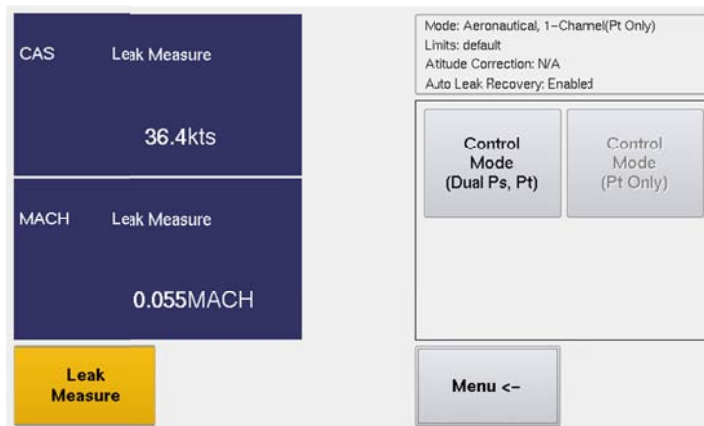

Figure 20 Optional 1-Channel (Pt Only) Mode
(2) Aeronautical 1-Channel (Pt Only) (Figure 20)